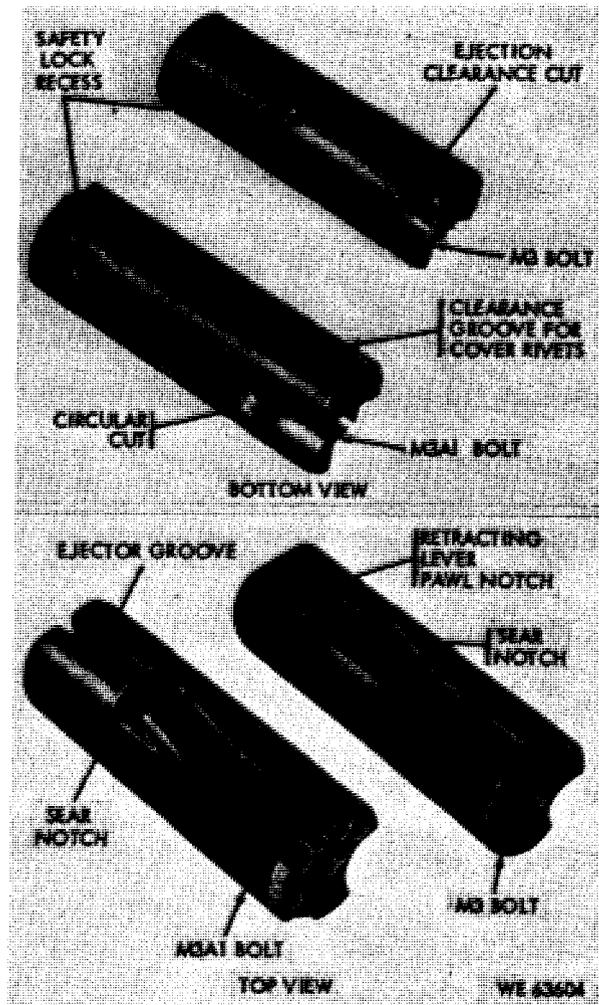

Figure 1-4. Two types of bolts.
b. The bolts for the M3 and M3A1 vary in design as shown in figure 1-4. The M3A1 bolt contains a circular cut which permits the cocking of the weapon by retracting the bolt with the finger. It also contains an ejector groove extending the length of the bolt. This permits the removal of the bolt and guide rod group without necessitating the removal of the trigger guard and housing assembly from the weapon. The retracting lever pawl notch has been eliminated and a cover-hinge-rivet clearance slot has been added.